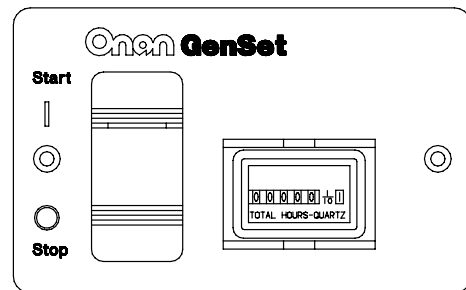

FIGURE 5-5. REMOTE SWITCH / HOUR METER
- Remote start/stop switch with status indicator light and hour meter (Figure 5-5).